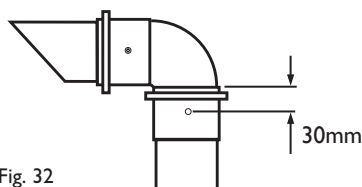

Fig. 32
13. Mark and drill the  $60\text{Ø}$  exhaust, using a 2mm bit, as shown in Fig. 32. Complete the installation of the  $60\text{Ø}$  exhaust, securing in the brackets.